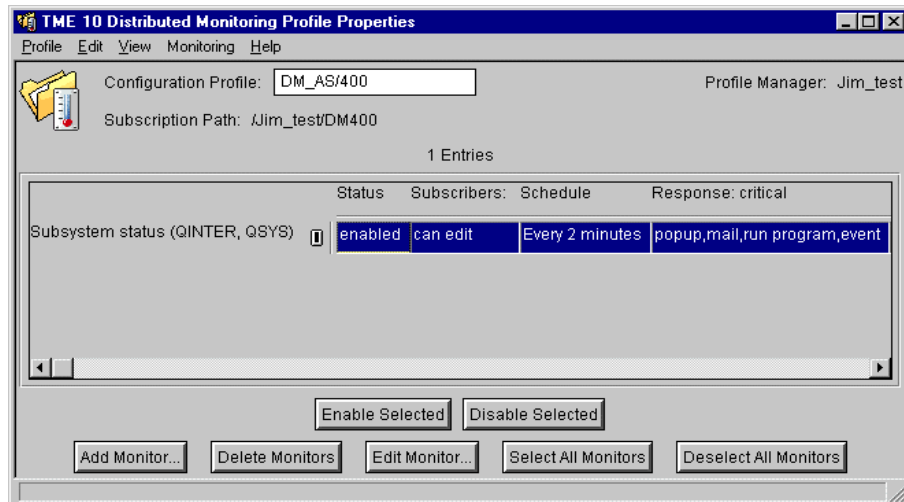

Figure 283. QINTER monitor in the DM_AS/400 profile properties
19. The monitor has now been created and will appear in the Monitoring Profiles Properties screen as shown in Figure 283 on page 450. To save the new monitor, select the **Save** option from the Profile menu.